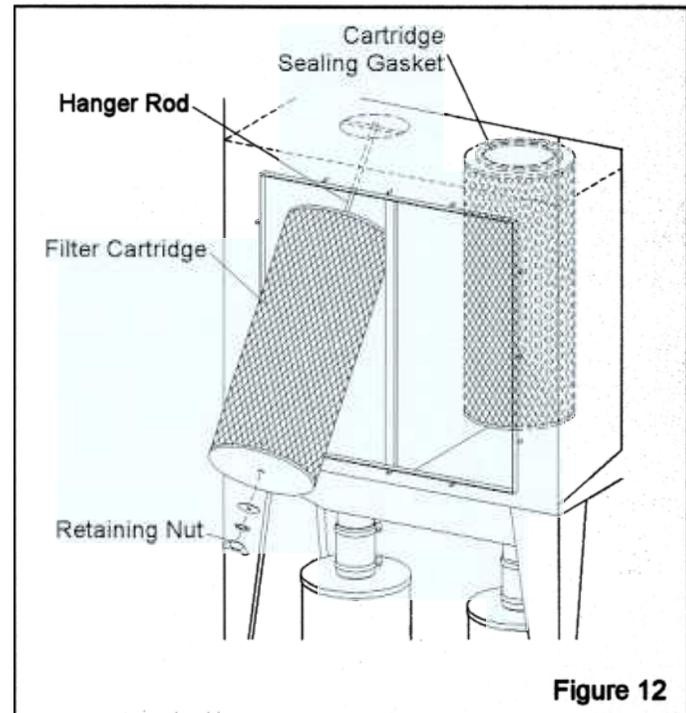

Figure 12
7.7 Filter Cartridge Replacement, Figure 12